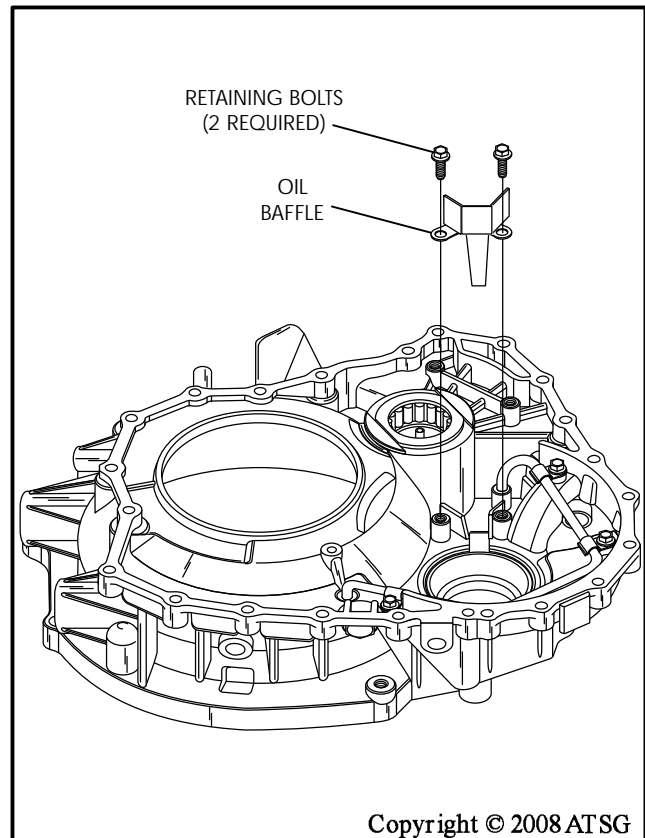

Figure 93
5. Install the oil baffle, as shown in Figure 93, if it was removed.